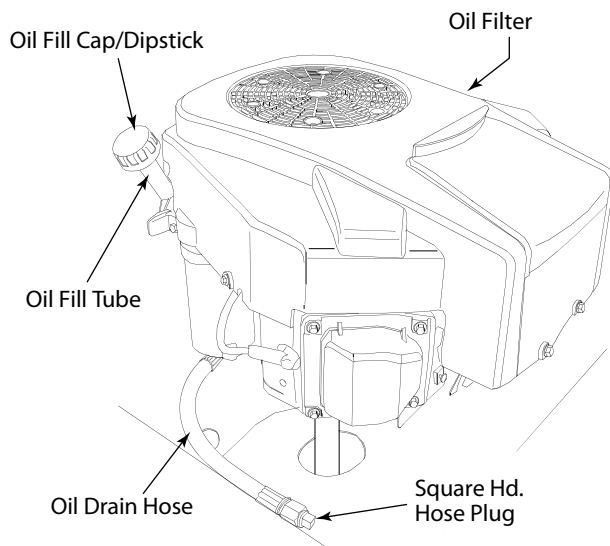

Figure 6-1
2. Locate the oil drain hose on the left side of the engine. Refer to Figure 6-1.
4. While holding the free end of the oil drain hose over the oil collection container, unscrew the square head hose plug from the end of the hose. See Figure 6-1. Drain the engine oil into the collection container.